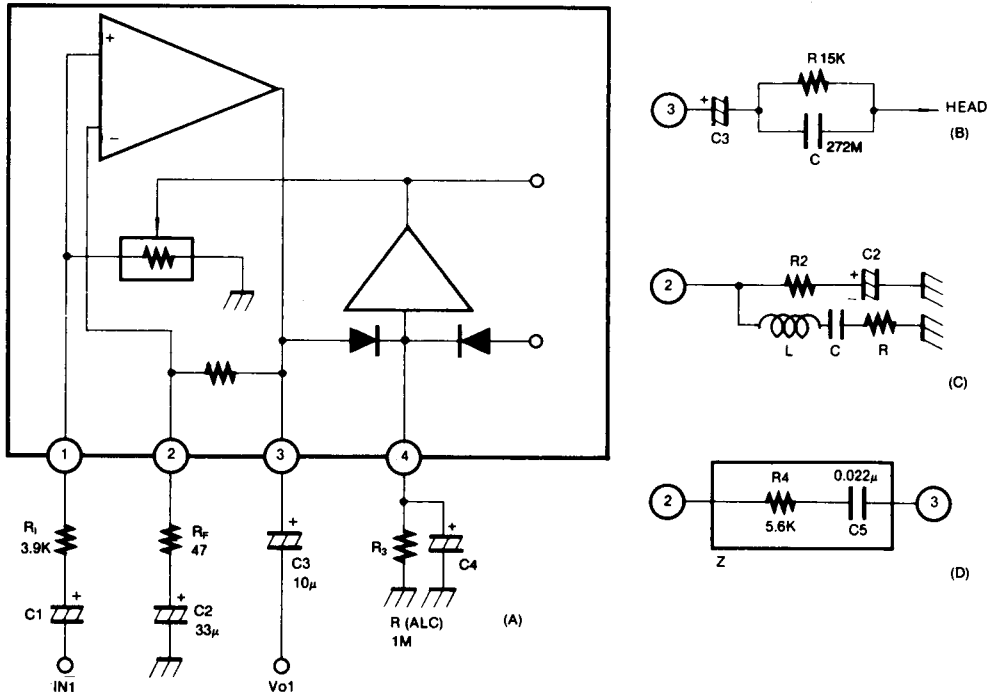

Fig. 3
## 2. Recording Amplifier (Figure 3 (A))
The recording amplifier requires a compensation circuit to correct loss at high frequencies. The compensation circuit may be either CR or LC resonance. The frequency response of the resonance circuit is fixed at 1–4KHz. An example using a CR is shown in Figure 3 (B), and one using LC resonance is shown in Figure 3 (C).
As the Figure 3, because the  $R_F$  range is  $47 \sim 100$  ohm normally at the set application, the matching between  $R_3$  and  $C_4$  occurs.